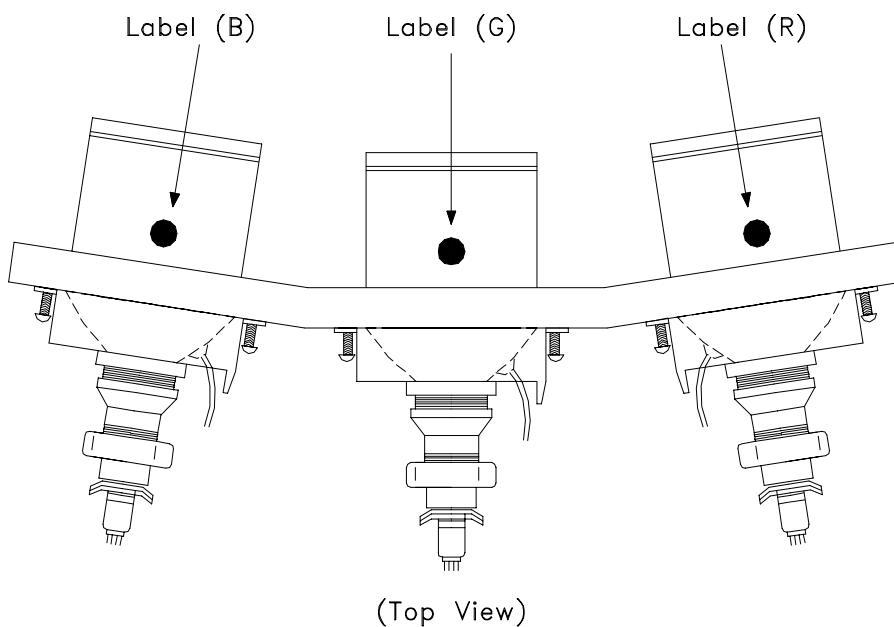

Figure 5-7
8. Remove the Deflection Yoke from the neck of the CRT. [Figure 5-7]
- a) Position the Lens so that the Label faces the direction shown in Figure 5-7